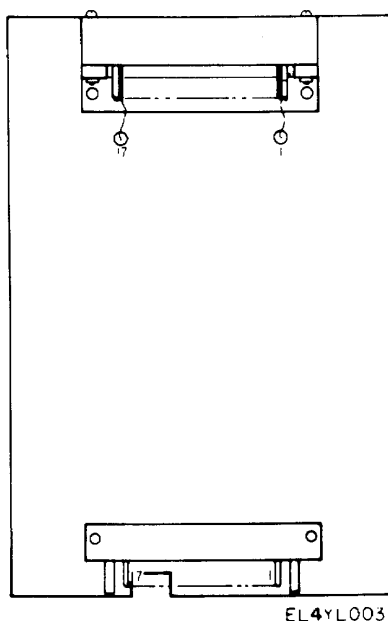

Figure 5-9. Extender Test Board. SM-D-9 13115.
**In-circuit measurements made at the test points or terminals on A1, A2 or A5 must be performed with the aid of the Extender Test Board, SM-D-943415 (fig. 5-9). To avoid equipment damage, be sure to shut off power supply when extender board is being inserted or removed.**